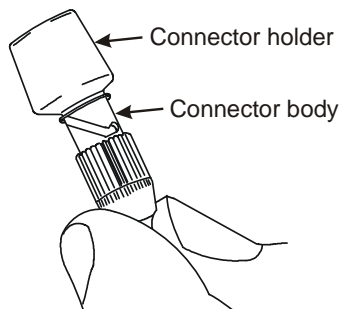

Figure 20. Install Connector Holder
3. **Install Connector Holder**—Place the connector body in a 600A or 600B connector holder (Figure 20).